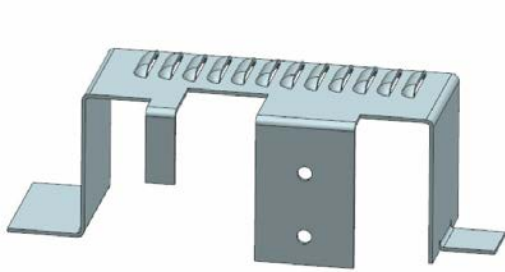

Figure 14-119 Two holes created on the first flange
- Create the holes on the flanges, refer to Figures 14-119 and 14-120.
6. Accept the other default settings and choose the **OK** button from the dialog box; two holes are created on the first flange, as shown in Figure 14-119.